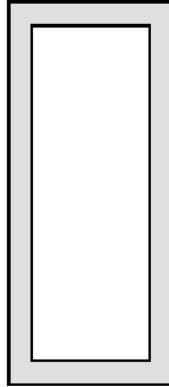

**Figure 24. Solder Paste Application on Exposed Pad**
3. For the PCB thermal pad, solder paste should be printed on the PCB by designing a stencil with an array of smaller openings that sum to 50% of the QFN exposed pad area. Solder paste should be applied through an array of squares (or circles) as shown in Figure 24.